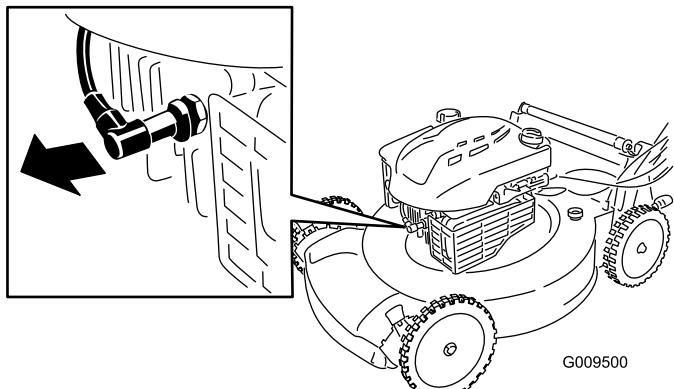

Figure 23
- Disconnect the spark plug wire from the spark plug (Figure 23) before performing any maintenance procedure.